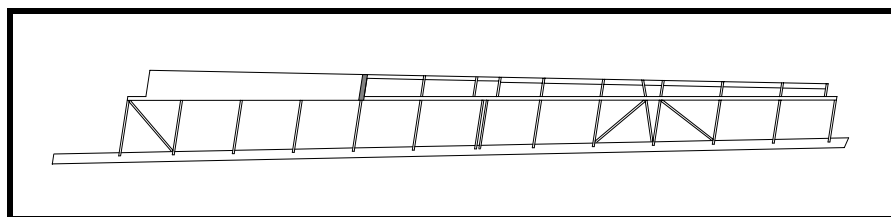

Figure 22
- ❑ Install the upper leading edge skin between Sta. 2 and 6. See Figure 22. This skin should extend all the way to the inboard end of the flap spar. Scarf for the joint for the next outboard skin, but do not scarf for the trailing edge skin, since you will need the full thickness of the plywood for secure clamping of the skin to the spar.